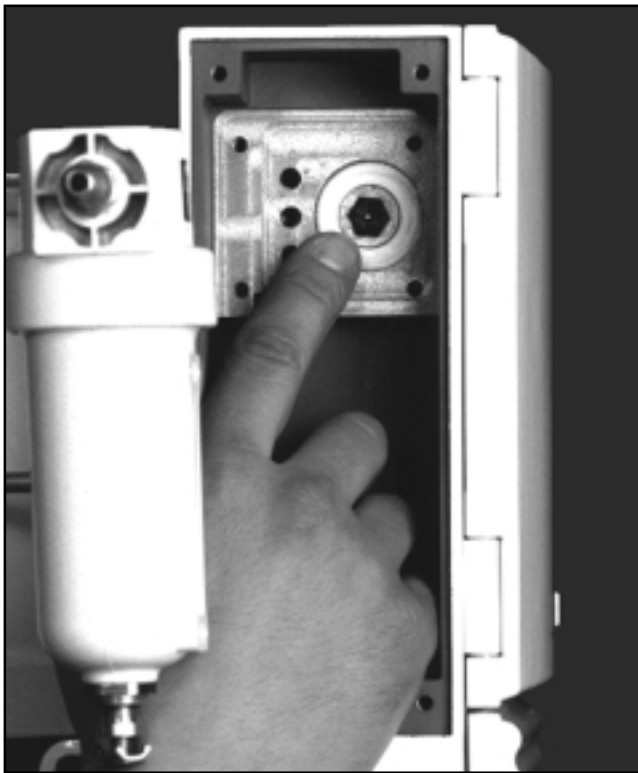

Figure 10: Regulator Filter Replacement
7. Remove the old regulator filter and insert the new filter (refer to Figure 10).